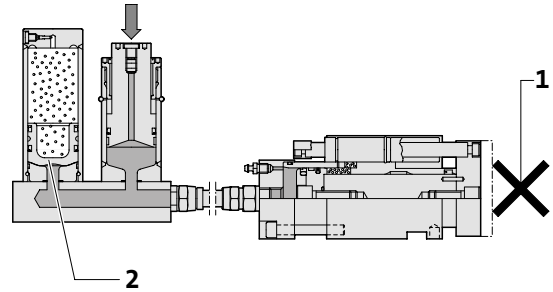

Figure 6:
### 4.2 Safety function (Fig. 6)
If the working stroke of the cam in the press is blocked (1), the piston in the accumulator (2) is raised. The oil is displaced into the accumulator, which prevents overpressure from building up in the system (Fig. 6).